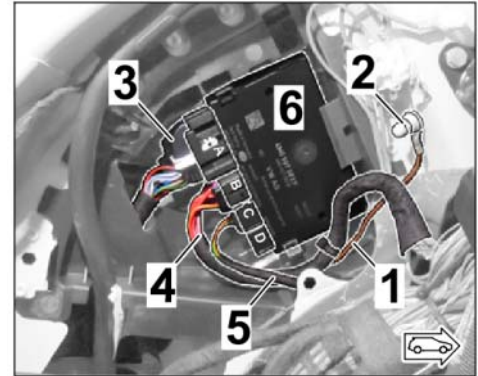

Figure 12
2.6 Connect plug connections for connector A/B/C to the trailer hitch control unit (⇒ *Figure 12*).